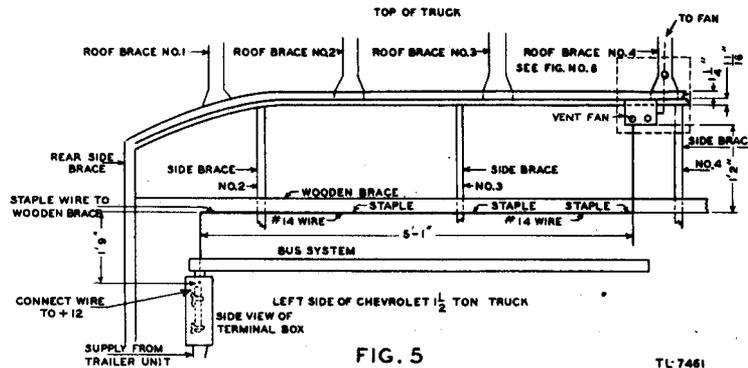

FIG. 5
2. To rewire the fan circuit, refer to figures 5, 6, 7, and 9, and proceed as follows:
- (d) Mount plate on left side stringer of truck, and wire it as shown in figure 5. The No. 14 lead is brought from +12 volts, in terminal box at rear of truck, to the switch, which is wired to the resistor and pilot lamp socket. The wire is then put through the grommet, through the hole in roof bracket, and connected to the fan motor lead.